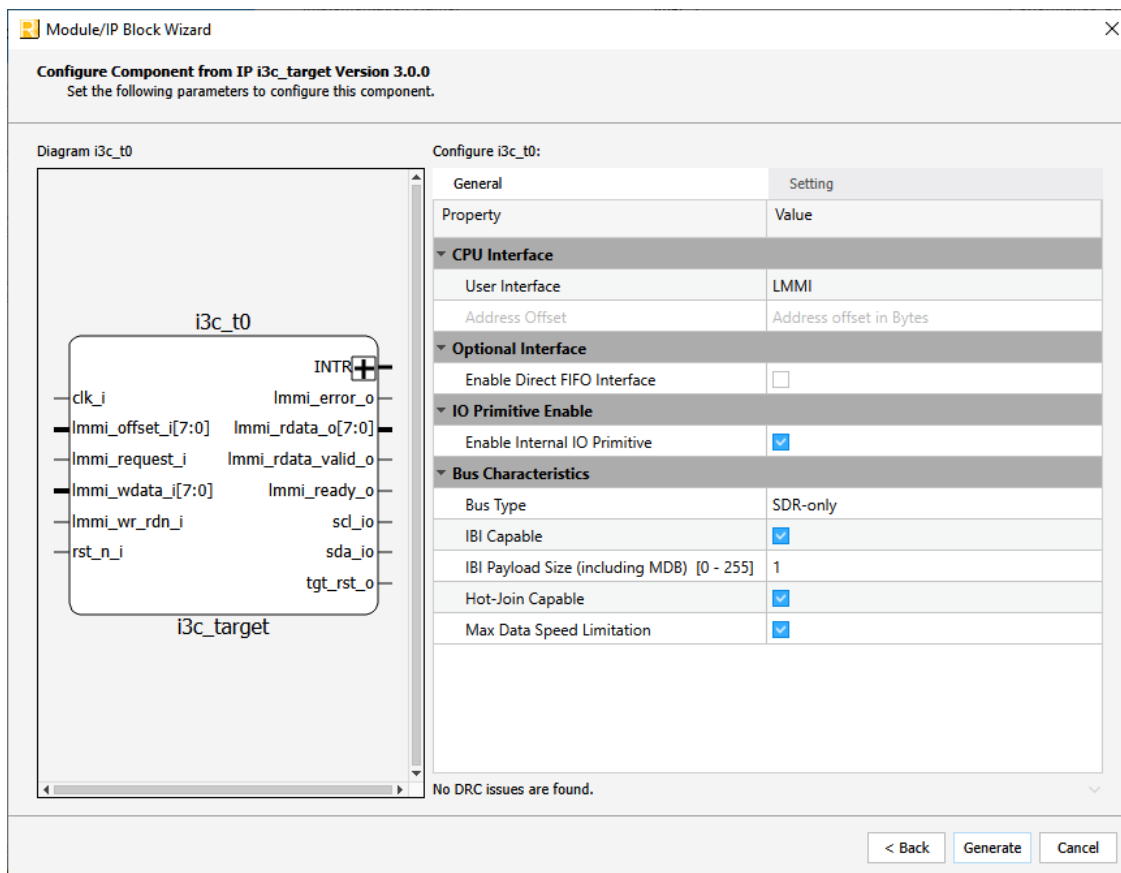
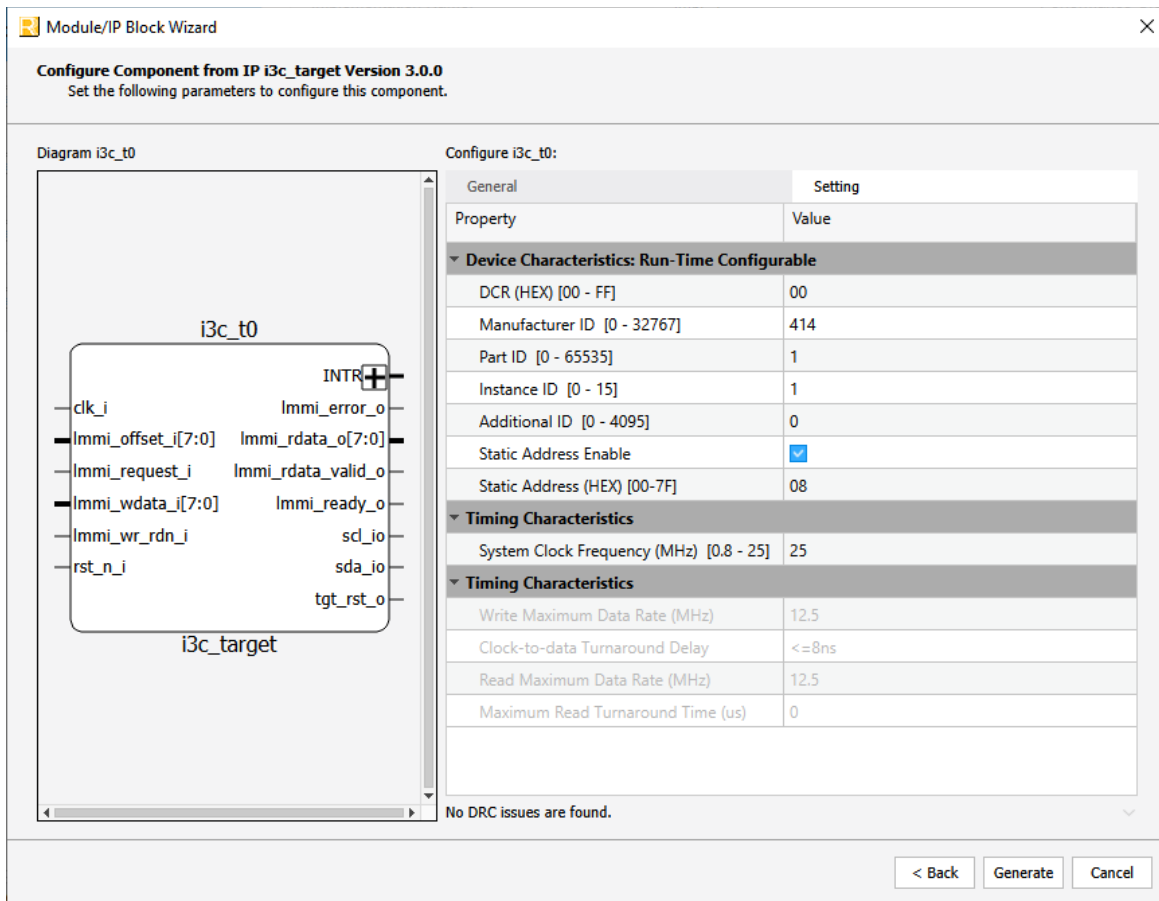

Figure 3.1. Configure Block of I3C Target Module – General Tab
Figure 3.2. Configure Block of I3C Target Module – Settings Tab
2. In the dialog box, configure the I3C Target module according to custom specifications, using drop-down menus and check boxes. As a sample configuration, see Figure 3.1 and Figure 3.2. For configuration options, see Table 2.6.